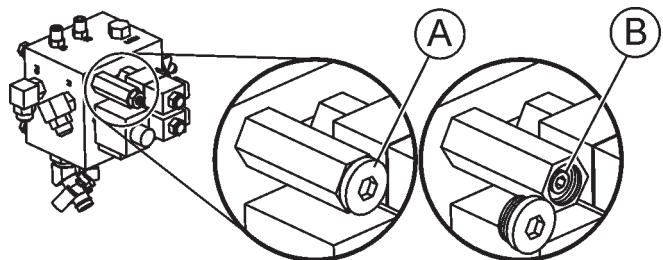

Figure 46. Pitch Pressure Relief Valve
2. With the engine **OFF**, remove the end cover on relief valve (Item A, Figure 46).
3. Adjust the relief valve (Item B, Figure 46) with allen wrench and reinstall the end cover.